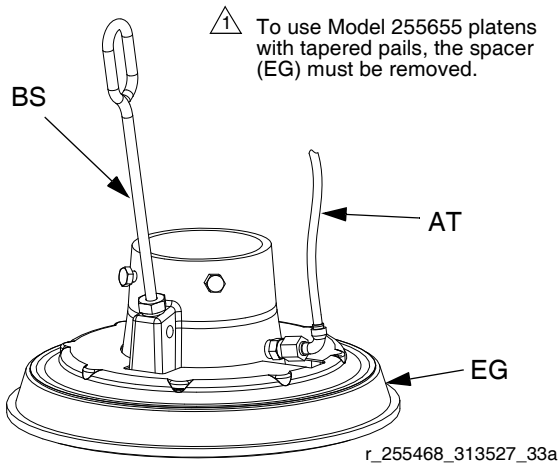

FIG. 14
See FIG. 14. If the platen does not come out of the pail easily when the pump is being raised, the air assist tube (AT), or check valve may be plugged. A plugged valve prevents air from reaching the underside of the plate to assist in raising it from the pail.
3. Clear the air assist tube (AT) in the platen. Clean all parts of the valve and reassemble.
4. Remove the bleed stick (BS) from the platen. Push the bleed stick through the bleed relieve ports to remove material residue.